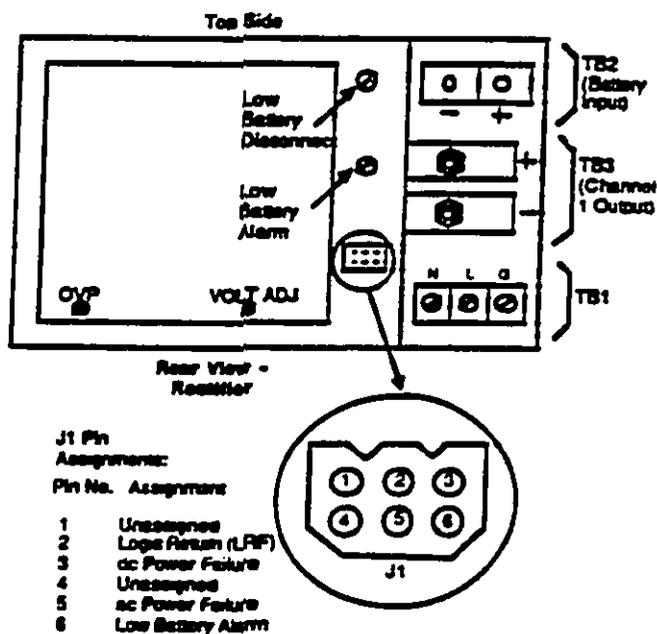

Fig. 2-21
- 4 Measure the voltage across the dc output terminals of the rectifier (+ and - on TB3, Fig. 2-21), and adjust the voltage adjust (VOLT ADJ) control clockwise to obtain a reading of - 56 Vdc  $\pm$  0.1 V.
*Caution:* At the rectifier, use a voltmeter to ensure that no dc voltages are present at terminal blocks TB2 and TB3, and that no ac voltages are present at TB1. See Fig. 2-21 for rectifier connections.